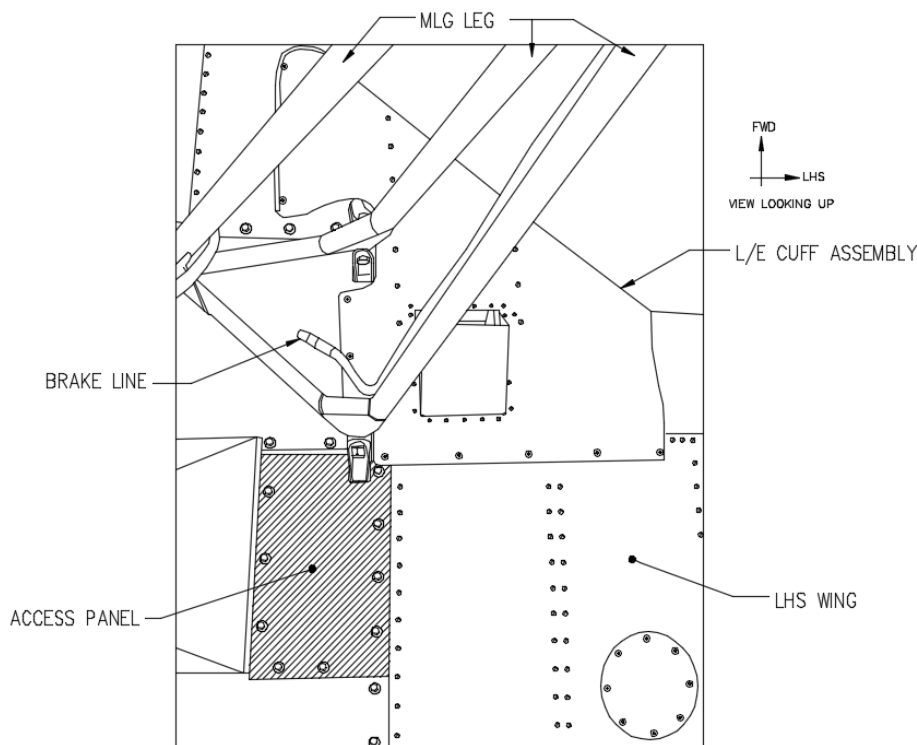

Figure 3 – Access Panel on fuselage belly. LHS of aircraft, view looking up
2. For GA200/GA200C aircraft, identify and remove access panels to get access to the LH and RH wing roots. The LHS access panel is shown in Figure 3, the RHS is the opposite.